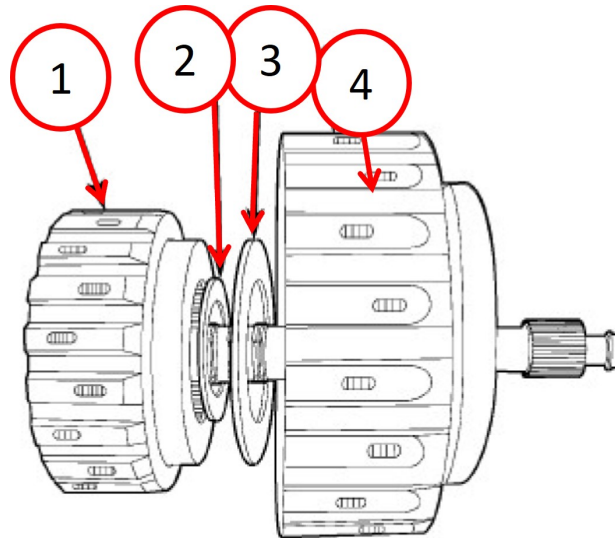

Fig. 9
12. Remove the K2 clutch assembly and the selectable input shaft end-play thrust bearing number one and thrust washer from the K1 clutch/input shaft assembly (Fig. 9) .
21. Apply trans jel or petroleum jelly onto the new input shaft seal rings and install the K2 clutch assembly onto the new K1 clutch/input shaft assembly with the original selectable input shaft end-play thrust bearing number one and thrust washer in place (Fig. 9) .